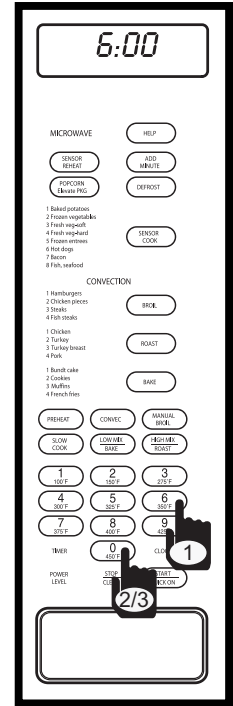

Figure 3-47.
3. Enter desired start time. For example: 6:00; press the number 6 key and number 0 key twice (See Figure 3-47). The display will flash "PRESS - CLOCK".